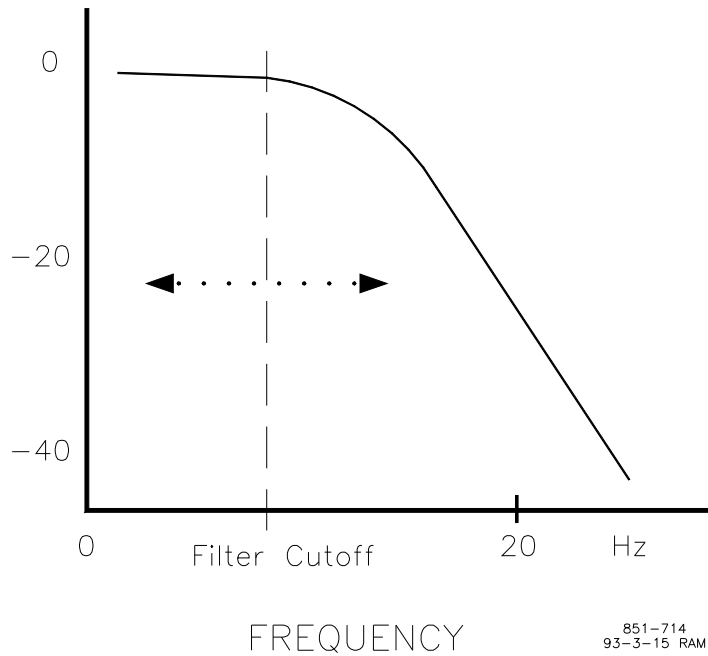

Figure 3-5. Speed Filter
8. **SPEED FILTER FREQ** adjusts the cutoff frequency of a low pass filter used on the engine speed sensing input (see Figure 3-5). To use this feature set the cutoff frequency below 15.9 Hz. The filter is used to attenuate
15. **SPEED FILTER FREQ** is the cutoff frequency of a low pass filter used on the speed sensing input (see Figure 3-5). To use this feature set the cutoff frequency below 15.9 Hz. The filter is used to attenuate engine firing frequencies. To calculate the desired filter cutoff point, use the following formulas: